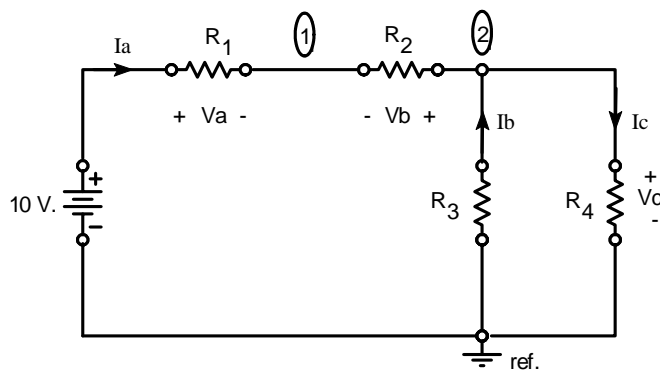

Figure 3. Circuit for Voltage and Current Measurements
Construct a Multisim simulation of the circuit in Figure 1 using the **measured** values of the four resistors. Run the simulation so as to determine the currents and voltages indicated in Figure 3.
1. Construct the circuit shown in Figure 3.